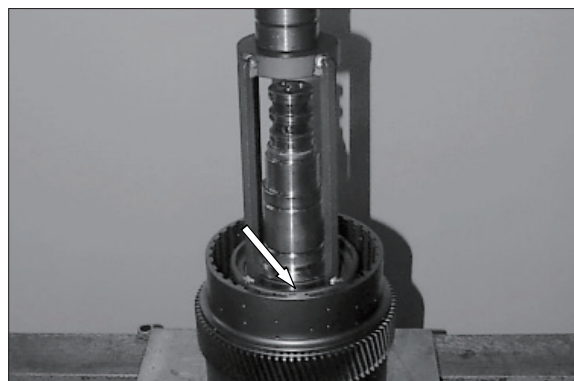

Figure 200
(7) Lift the disc carrier out of the clamping ring. Preload the compression spring by means of fixture and engage the snap ring into the annular groove of the disc carrier (arrow), see figure 200.